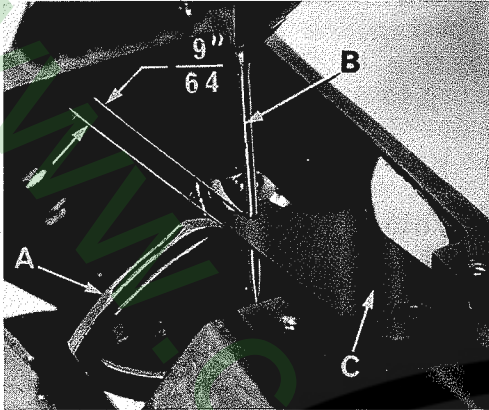
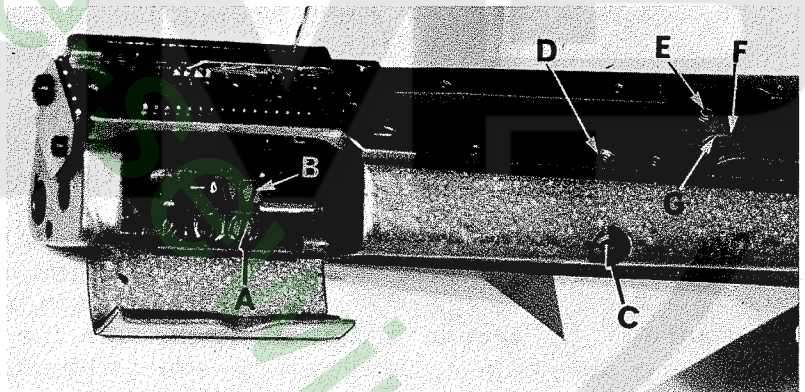
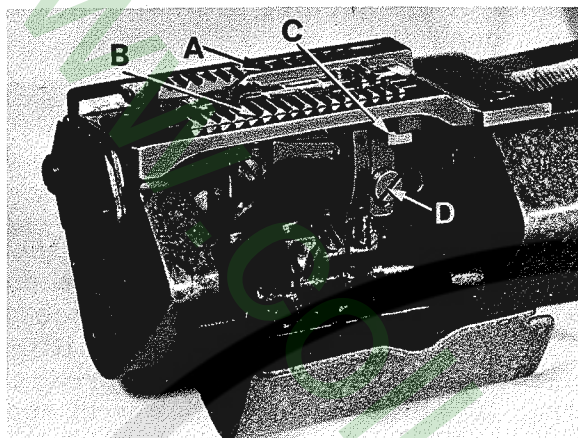

Fig. 5
Fig. 6
Fig. 7
Insert a new set of needles, type and size specified. Always adjust the looper (A, Fig. 5) for the left needle first. Set the looper so that the distance from the center of the needle (B) to the point of the looper (A) is $9/64$ inch, when the looper is at its farthest position to the left. Looper gauge (C) No. 21225- $9/64$ can be used advantageously in making this adjustment. If adjustment is required, loosen screw (A, Fig. 6) in looper holder, permitting movement in either direction to obtain the $9/64$ inch dimension as shown in Fig. 5. Retighten screw (A). Rotate handwheel in operating direction to assure that the looper point passes to the rear of the needle as close as possible without contacting, and the descending needle barely brushes the back of the looper. This adjustment can be made by loosening screw (B, Fig. 6) very slightly, so the looper can be moved in the holder, but rigid enough to retain its position while rotating machine through its cycle to attain the required movement, retighten screw. Always check the $9/64$ inch looper gauge setting after setting the looper to the back of the needle, and conversely, always check the setting of the looper to the back of the needle after setting the $9/64$ inch looper gauge.
Before assembling the main and differential feed dogs, set the feed bar eccentric pin (C, Fig. 6) located in the left side near center of cylinder, so that the slot in the head is in a horizontal position. This assures a neutral position of eccentricity for the purpose of raising or lowering the height of the main and differential feed bars simultaneously. The feed bar pin is retained in position by set screw (D). Assemble the differential feed dog (A, Fig. 7), main feed dog (B) and throat plate. Both the main and differential feed dogs can be individually adjusted to height due to having elongated slots for their attaching screws. The main feed dog at its highest position, should be set to project above the throat plate, slightly more than the depth of its teeth. The differential feed dog may then be leveled with the main feed dog. Tighten the attaching screws securely.
Should the main feed dog require repositioning due to contact with the throat plate in its forward or rearward travel, loosen set screw (E, Fig. 6) in main feed bar driving link (F) rotate main feed bar eccentric driving stud (G) as required. Driving stud (G) has a thin hexagon head with cut-outs on two of the flats allowing movement by tapping with a sharp pointed tool when a thin open end wrench is not available. Whenever the main feed bar eccentric driving stud position has been changed, re-check rear needle guard setting, adjustment may be required. Retighten set screw (E). Position main feed dog support (C, Fig. 7) flush against bottom of main feed dog (B), tighten support screw (D) securely.